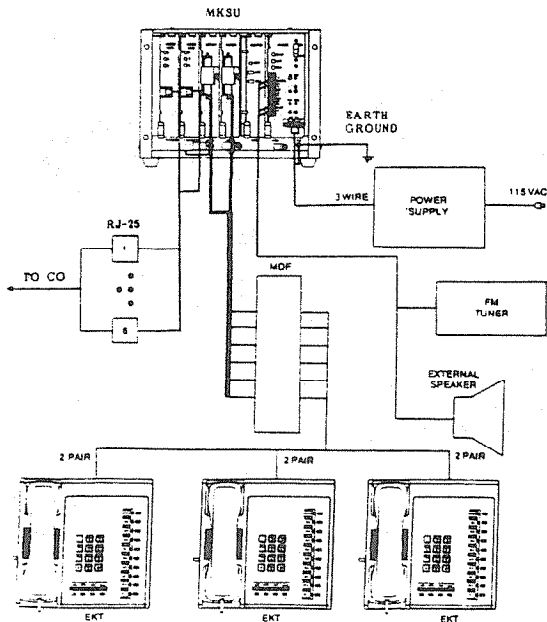

FIGURE 10
07.02 Two 66MI-50 split connection blocks (Figure 10) are recommended as the STRATA VI Main Distribution Frame (MDF).